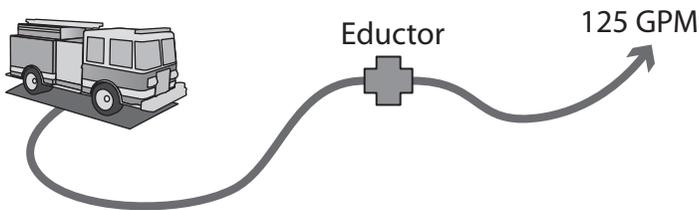

Fig. 9–4. Using an eductor to mix foam
Inline eductors are the most common type of proportioner (fig. 9–3). These devices can be placed anywhere in the hoselay. They can be attached anywhere from the pump panel to near the nozzle. The placement of the eductor depends upon the length of the hoseline and where it is easy and safe to use.
**Example:** The eductor is 100 ft away from the pump. Between the pump and the eductor is 100 ft of 2½" hose. After the eductor is 200 ft of 1¾" hose, with a 125 gpm fog nozzle (fig. 9–4).